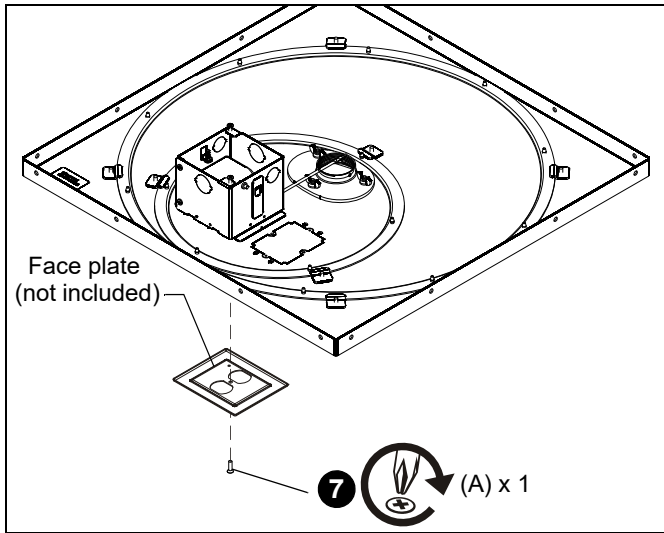

Figure 9
7. Attach face plate (not included) using one 6-32 x 1/2" Phillips flat head screw (A) after the CMS445N has been installed. (See Figure 9)